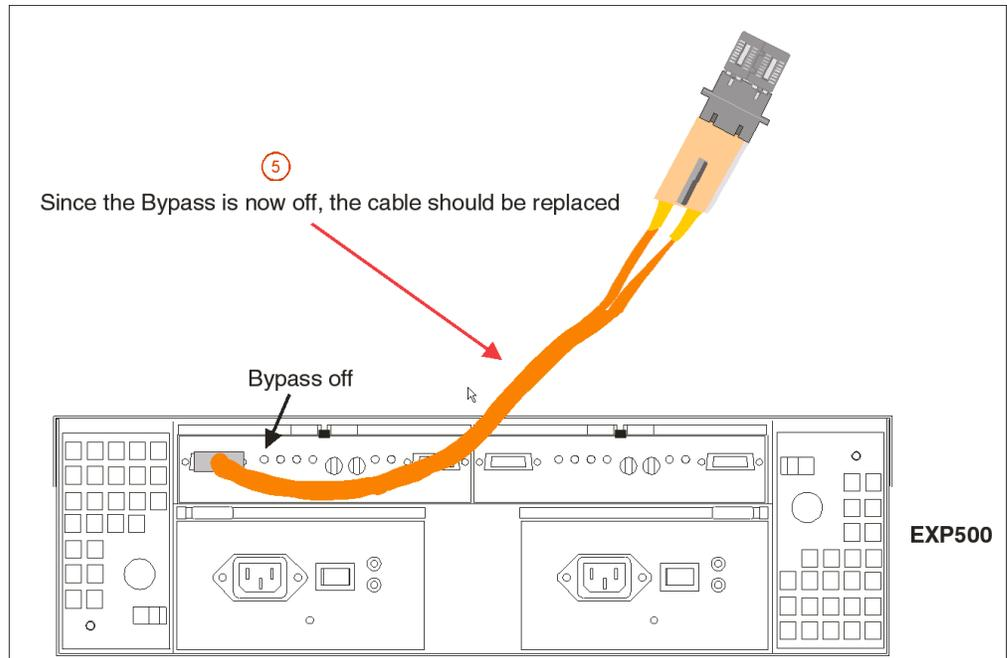

Figure 48. Insert wrap plug into element
5. As was shown in step 4, insert the wrap plug into the element from which the cable was removed in step 3. See Figure 48 on page 119.